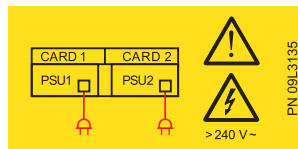

Figure 2. Linecord caution label
2. Verify that the linecord caution label is installed on the 2104 Model DS4 and Model TS4 power supply. See Figure 2.